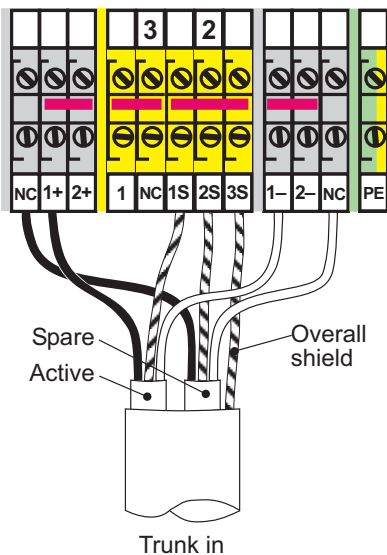

Figure 4.7 - 'Trunk In' with Active & Spare cable pairs
- d) Connect the prepared ends of the fieldbus trunk cable(s) into the appropriate '+', '-', and 'S' terminals, shown in Figure 4.7, and tighten the screw terminals to a recommended torque of 0.6 Nm.
Note: Figure 4.7 shows the screw-terminal '-PS' assembly option, but the '-PC' cage-clamp terminal arrangement is similar.